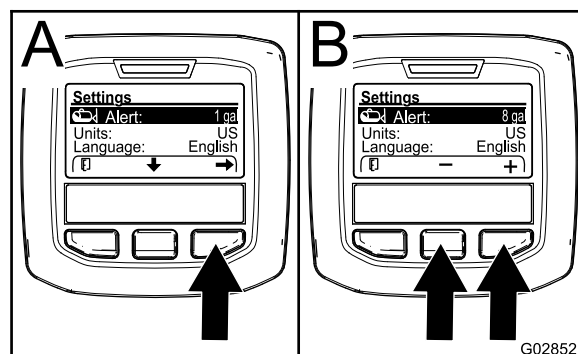

Figure 70
- Press the center selection button to highlight the Alert setting (Figure 70).
- Press the right selection button (Figure 70).
- Use the center or right selection buttons to enter the minimum quantity in the tank when the alert displays during sprayer operation (Figure 70).